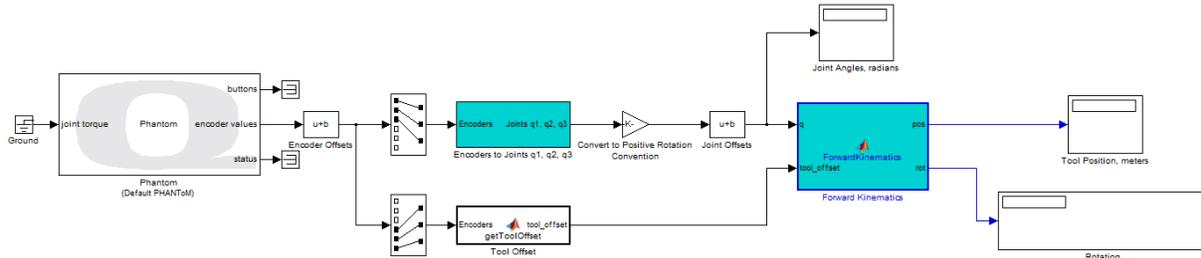

Figure 3.6: Forward kinematics model
4. Attach the **Tool Offset** block to the $tool_offset$ input. Your complete model should resemble Figure 3.6.